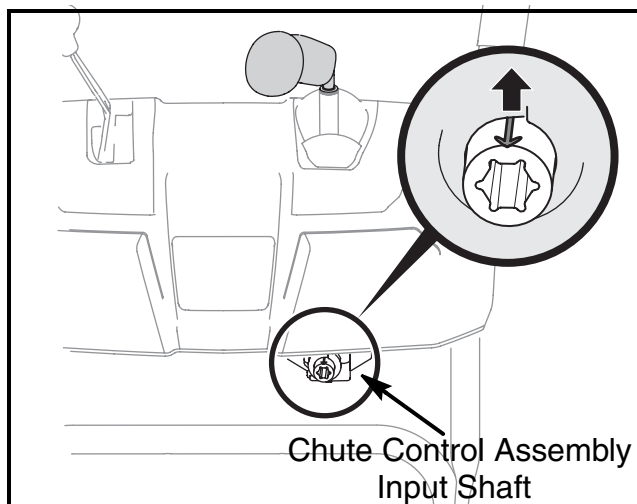

FIGURE 16
26. Rotate the joystick until the silver indicator arrow on the chute control assembly input shaft, below the control panel, faces upward. See Figure 16.